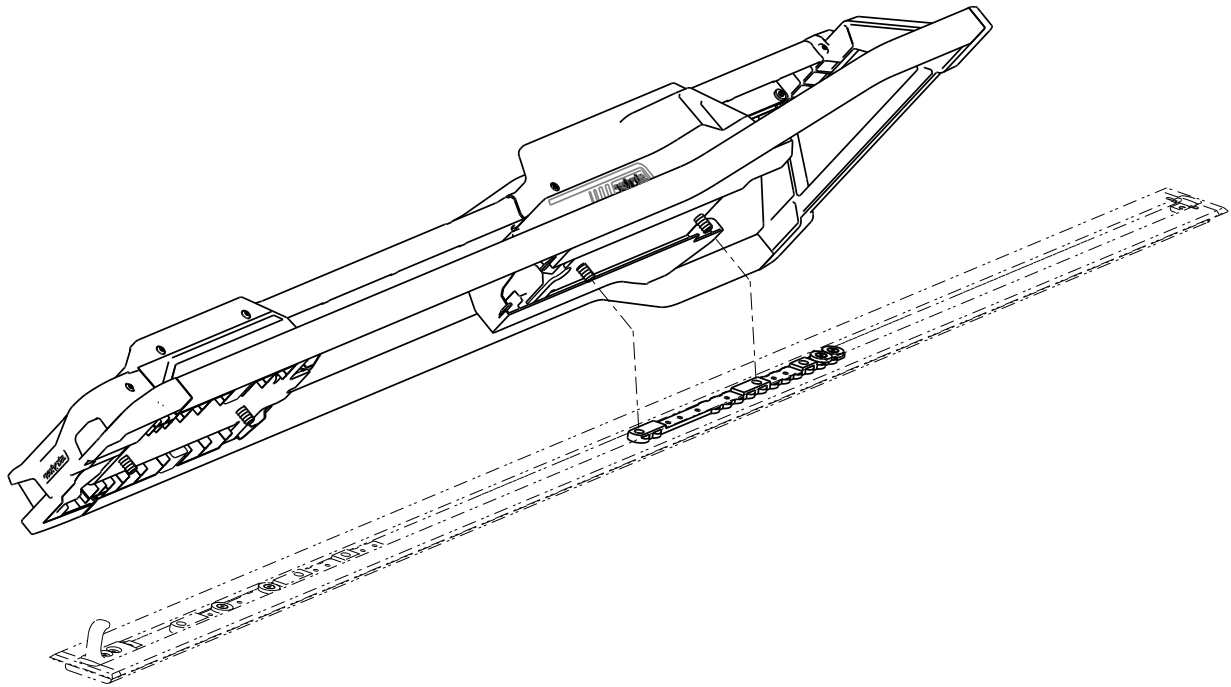

Figure 5 – Performance-LOAD alignment
1. Place **Performance-LOAD** on top of the floor plate assembly. Align the two bolts at the head end with the two holes in the cleat (Figure 5).